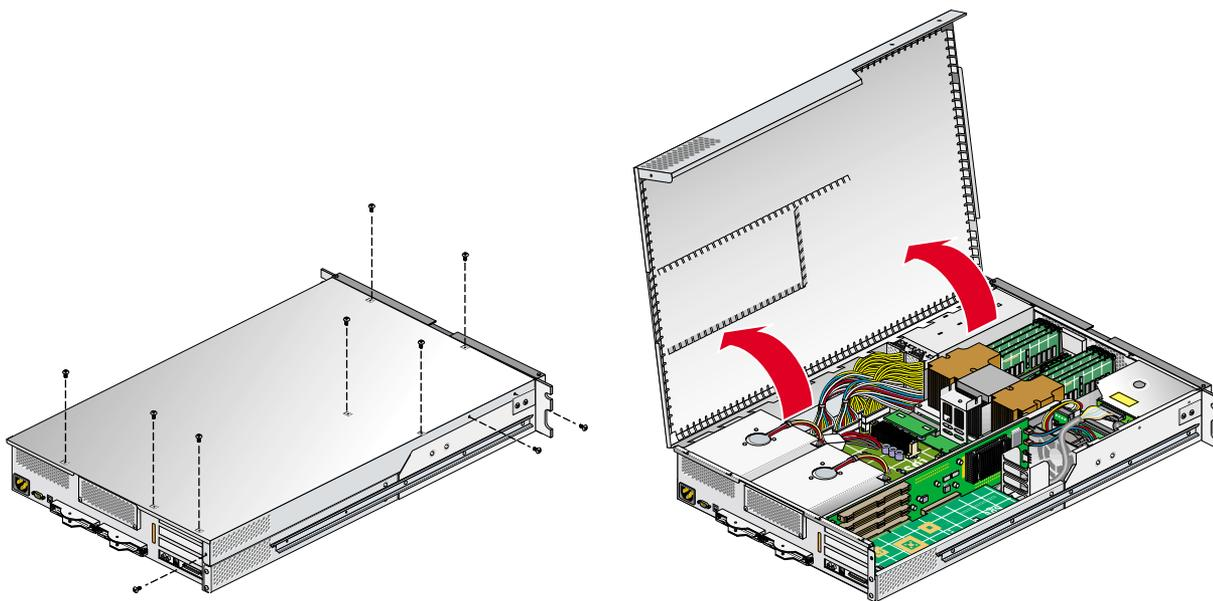

Figure 7-30 Opening the Module to Access the L1 Controller Display
5. To access the area where the L1 display is replaced, remove the ten Phillips screws shown in Figure 7-30, and lift and open the hinged cover.